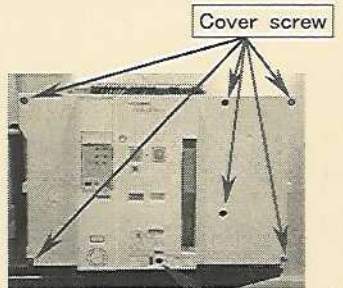

Fig. 9 Drawout indicator unit
4)-1. Loosen the cover screw (M6 × 65) on the ACB front face to remove the cover. (Fig. 9)
4)-7. Tighten the cover screw (M6 × 65) for attaching the ACB cover. (Fig. 9)